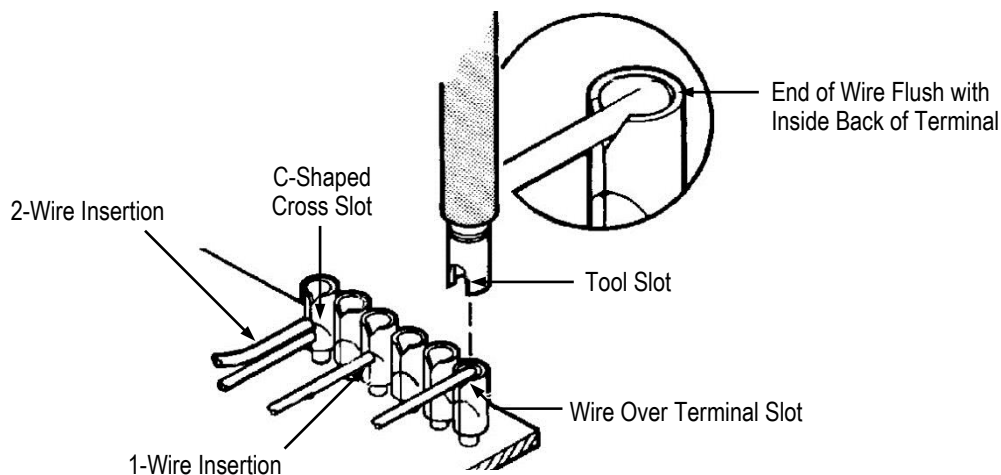

Figure 2
2. Position the pin end of the tool so that the wire enters the tool slot. See Figure 2.
4. For 2-wire insertion, repeat steps 1 through 3 (second wire will push first wire below C-shaped cross slot). See Figure 2.